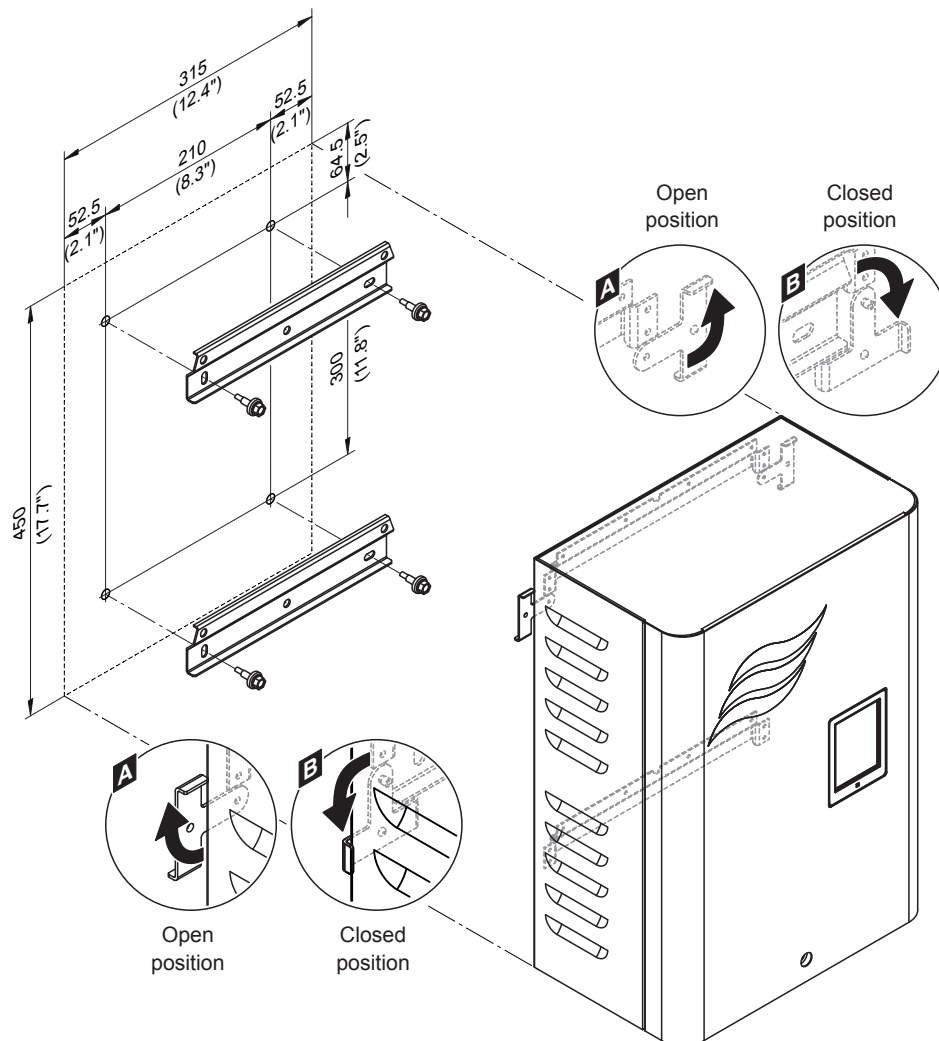

Fig. 31: Mounting the control unit of Nortec ME Controls
3. Move the locking hooks on the back of the control panel to open position (see detail "A" in Fig. 31).
5. Move the locking hooks on the back of the control panel to closed position (see detail "B" in Fig. 31) in order to fix the control unit to the upper wall support.